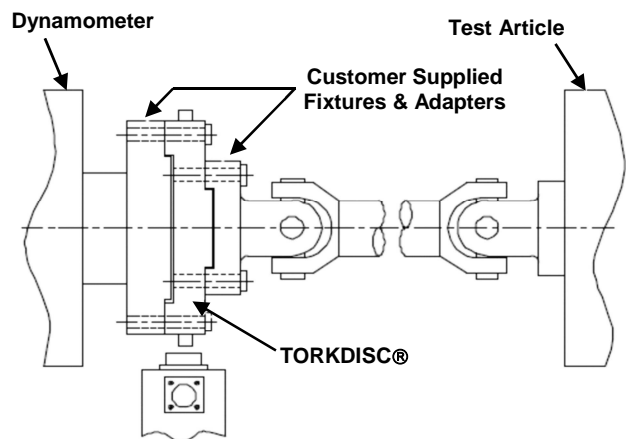

Figure 10 – Typical Installation
2. In most applications, we recommend that the female pilot end of the TORKDISC® be hard-coupled to the dynamometer, and the male pilot end be connected to the test article by means of a flexible coupling. Automotive-style drive shafts with a universal or constant velocity joint at each end are acceptable (see Figure 10). When using a drive shaft with universal joints at each end, a slip yoke at one end is desirable to prevent axial forces from being transmitted to the TORKDISC®. It is also important that the universal joints are in phase end-to-end, and drive shafts run 2 to 3 degrees out of level end-to-end. If preferred, commercially available flexible couplings are acceptable alternatives.